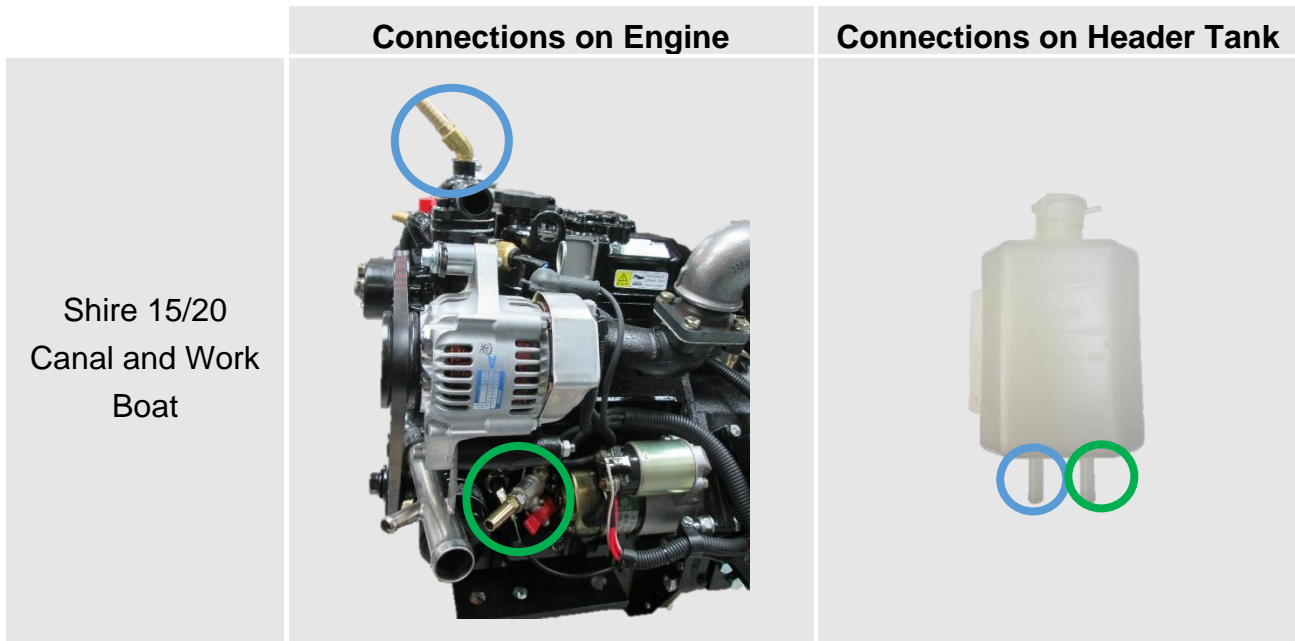

Figure 21: Canal Boat / Work Boat Header Tank Connections
- Two hoses are used on these engines. The two spigots on the plastic header tank have different internal hole diameters. The hole on the left hand side of the tank is 3mm diameter and the hole on the right hand side of the tank is 8mm diameter. Please make sure they are connected the correct way around as per **Figure 21**.